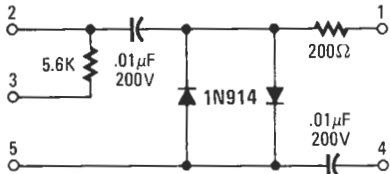

FIG. 2—INTERFACE DEVICE provides matching and isolation between phone and recorder.
The heart of the Telecorder is the interface module (Fig. 2). This module is the element that interfaces the phone line with the recorder. When it is connected to the red and green wires of the telephone, it senses the voltage across these two wires and produces a switching signal that energizes a relay connected across terminals 3 and 5. A relay switching signal is produced every time the telephone receiver is lifted off the hook.
- Interface module (see Fig. 2)
While the layout of the circuit is not critical, it is important that the audio input lead to the tape recorder be shielded to prevent 60-Hz hum from being picked up. A two-conductor shielded cable is recommended, with the shield connected to ground at the PC board. Connections to plugs PL2 and PL3 are not critical in that any wire can be connected to the tip or the body of the plug. The interface module can be built by following the schematic diagram in Fig. 2 and using discrete components.